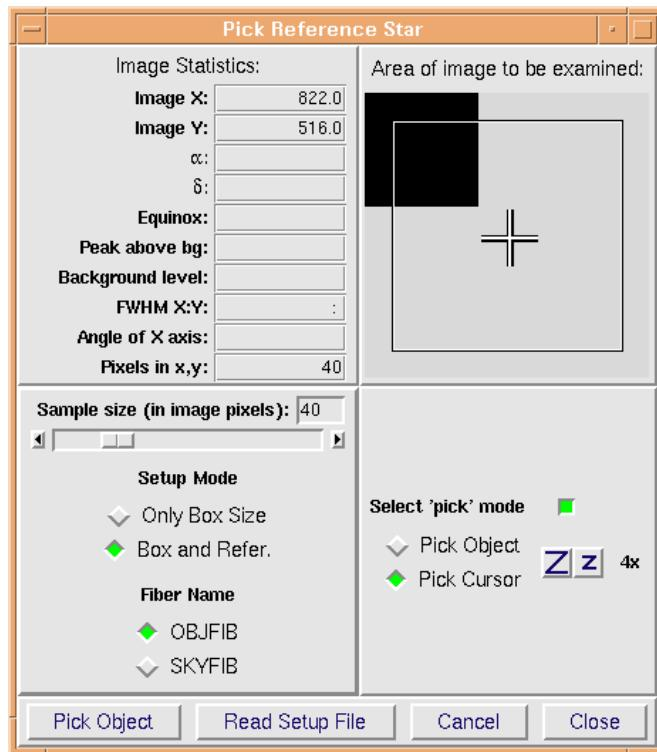

Figure 6.1: Window to set FEROS fibre reference position Pick reference star. Select checkbox Pick Cursor.
- a. Open or activate window Pick reference star (Fig. 6.1).